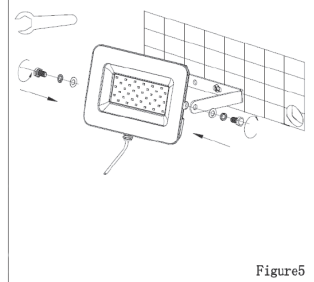

Figure5
5. Attach the floodlight to the bracket and adjust to desired position. Tighten the screws on the bracket (fig.5)
6. Connect to the mains cable (minimum H05RN-F3G1.0mm²) to the power cord on the unit, passing through the waterproof junction box. Ensure that positive, negative and earth wires are connected correctly. (fig.5). A junction box with IP65 protection or above is required. Ensure that the waterproof screw is tightened.